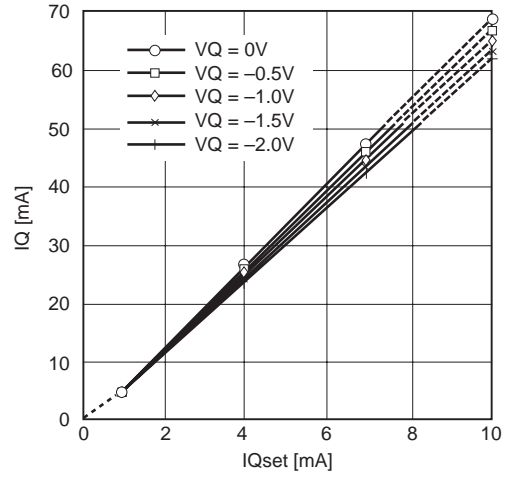

Fig. 2. Modulation current ( $I_Q$ ) vs.  $I_{Qset}$  characteristics
This circuit modulates the laser diode and the modulation current can be set by feeding the current to the modulation current set pin (Pin 14 DrvAdj). The relation between the modulation current (IQ) and the modulation set current (IQset) is shown in Fig. 2. There is also a modulation current monitor pin (Pin 13 DrvMon) that allows the IC user to monitor the modulation current by putting an external fixed resistor between Vcc and DrvMon pins, and the modulation current can be monitored by measuring the voltage of DrvMon pin. The relation between the modulation current (IQ) and the DrvMon current (Idrvmon) is shown in Fig. 7.